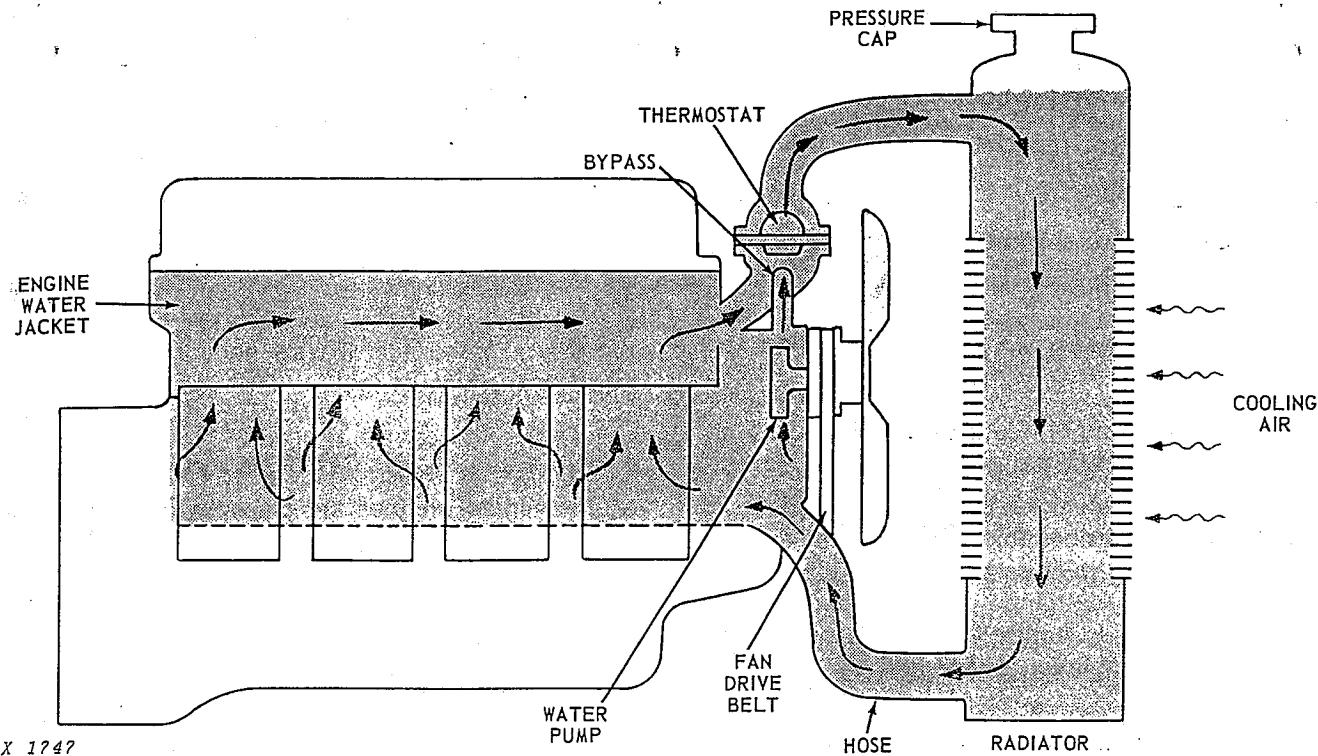

Fig. 21 — Cooling System (Liquid Type Shown)
**LIQUID COOLING** normally uses water as a coolant. In cold weather, anti-freeze solutions are added to the water to prevent freezing. The water circulates in a jacket around the cylinders and cylinder head. As heat radiates, it is absorbed by the water, which then flows to the radiator. Air flow through the radiator cools the water and dissipates heat into the air. The water then recirculates into the engine to pick up more heat (Fig. 21).